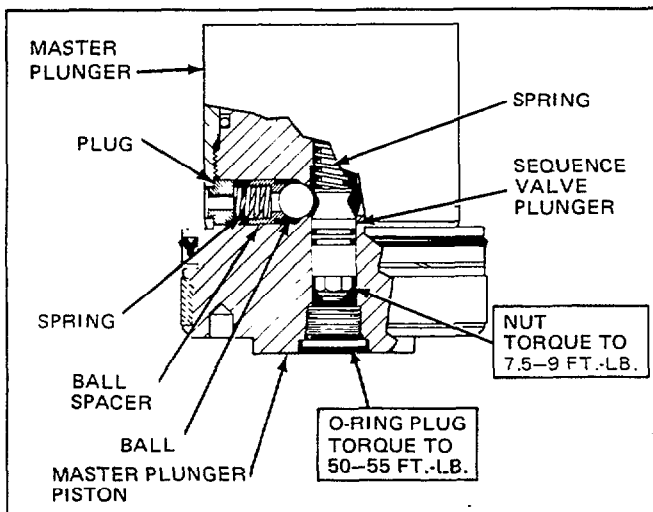

Figure 13. Sequence Valve Assembly, Located at the Base of the Master Plunger
5.1-2 Bi-Element Seal Assembly (Fig. 13)
- h. Install the sequence valve plunger spring and plunger in the hole in the base of the master piston. See Figure 13. Install and torque the retaining nut to 7.5–9 ft.-lb.
- i. Install the O-ring plug and torque to 50–55 ft.-lb. See Figure 13. Figure 13 illustrates the correct orientation of the sequence valve components when the piston is assembled onto the master plunger.